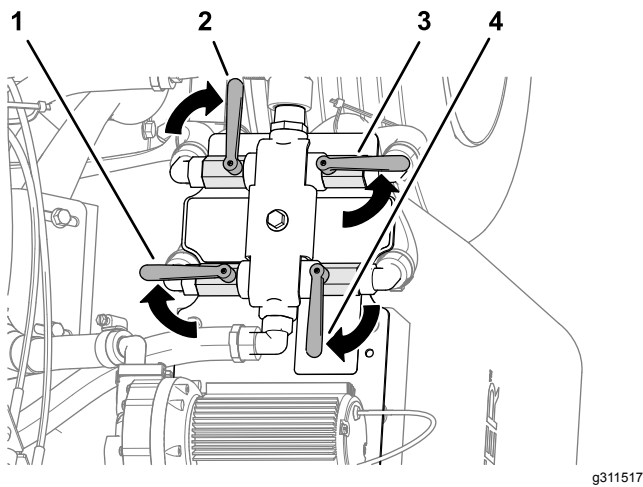

Figure 40
2. Rotate the valve handles as shown in Figure 40.